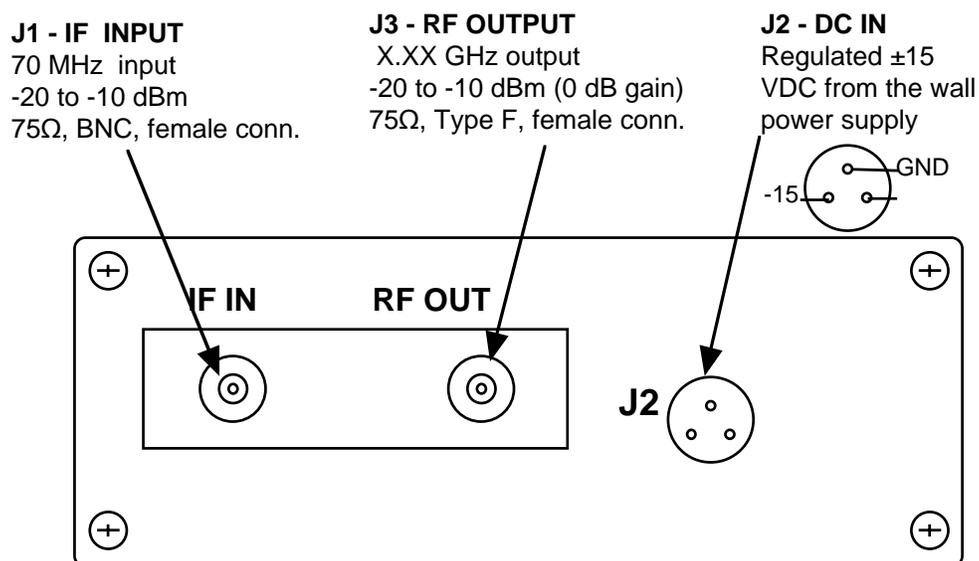

FIGURE 2.2 2086 Rear Panel Inputs and Outputs
2.3 Input / Output Signals - Figure 2.2 shows the input and output signals to the 2086.
- 1.) Connect the wall power supply to J2 and the wall power supply to 115 VAC, 60 Hz (Figure 2.2)
- 3.) Connect a -10dBm, maximum, signal to IF In, J1 (Figure 2.2)